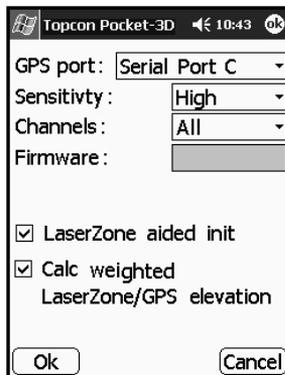

Figure 2-11. Select Lazer Zone Information
7. Select the following Lazer Zone parameters (Figure 2-11):